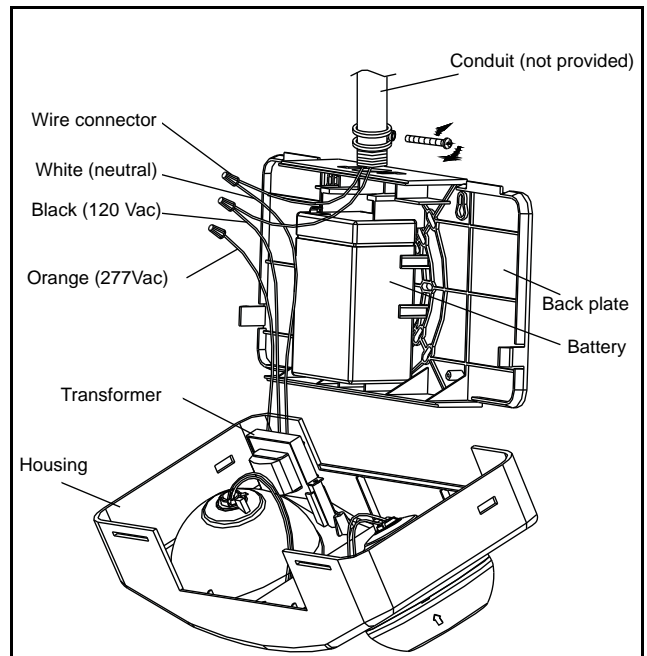

Figure 5
1. Remove the top knockout on the top flange of the fixture (see figure 5).